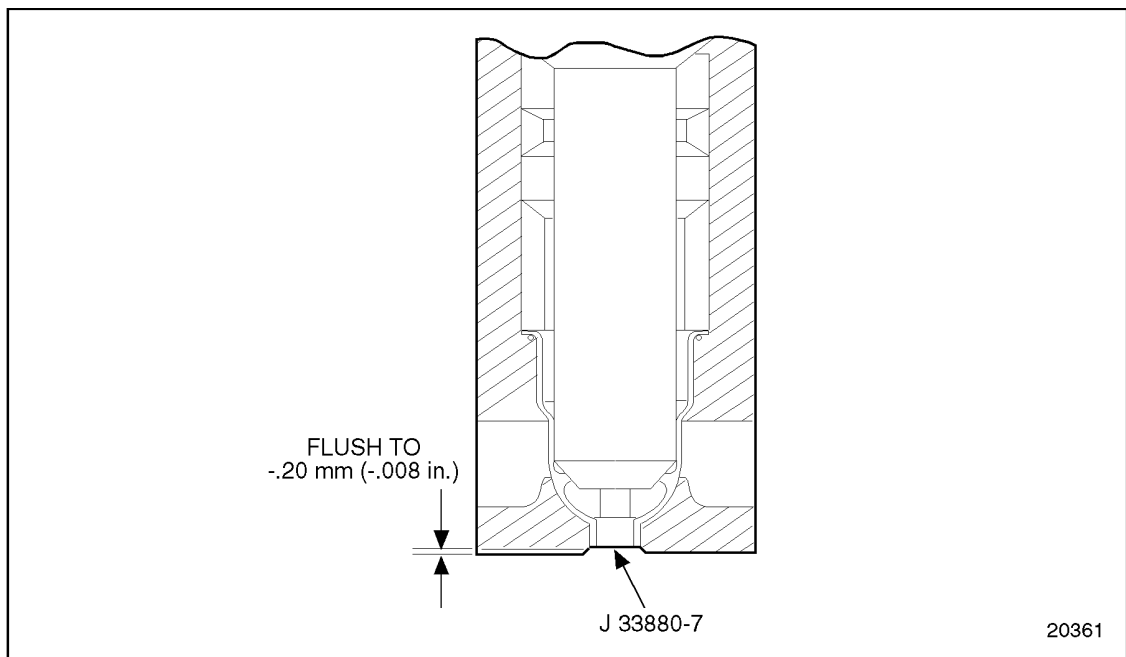

Figure 2-26 **Checking Injector Tip Protrusion**
2. Insert protrusion gage tool, J 33880-7 part of J 33880, into pilot. See Figure 2-26.